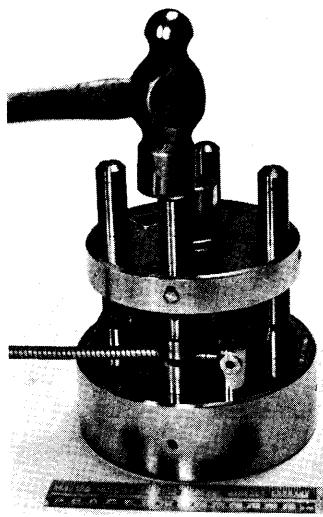

Figure 6d
g. Place Sleeve over end of casing inserting casing into sleeve as far as possible. (Be sure it butts against inner end of sleeve). Shove sleeve and casing onto guide pin at "Stake Casing" position until end of sleeve is against post. Figure 6d. Swing sleeve and pin into position for staking and strike blow only hard enough to drive the two halves of the tool together. Rotate casing 90 degrees and stake sleeve to the casing again. Continue this procedure for the remaining two 90 degree positions. Repeat for the other end of casing.